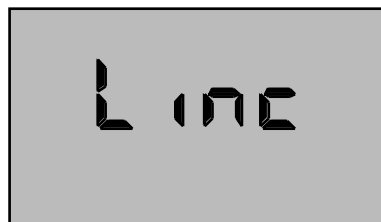

Figure 6
3. Press the  arrow key until the menu "Linc" appears. Fig. 6.